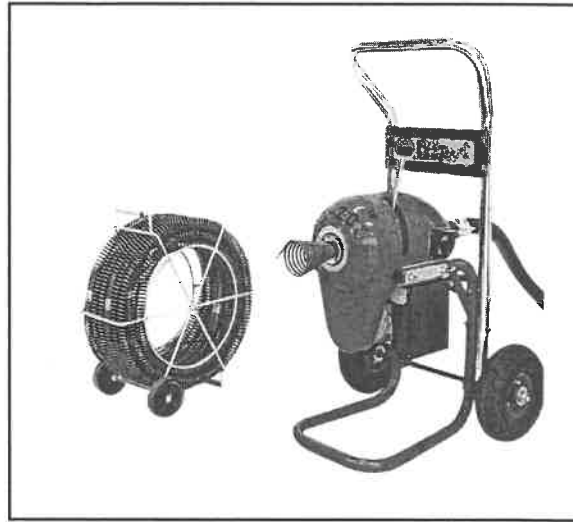

FIGURE 4.9
4.9 FIGURE 4.9 below shows a machine with an attachment.
- 4.9.1 Identify the machine in FIGURE 4.9. (1)